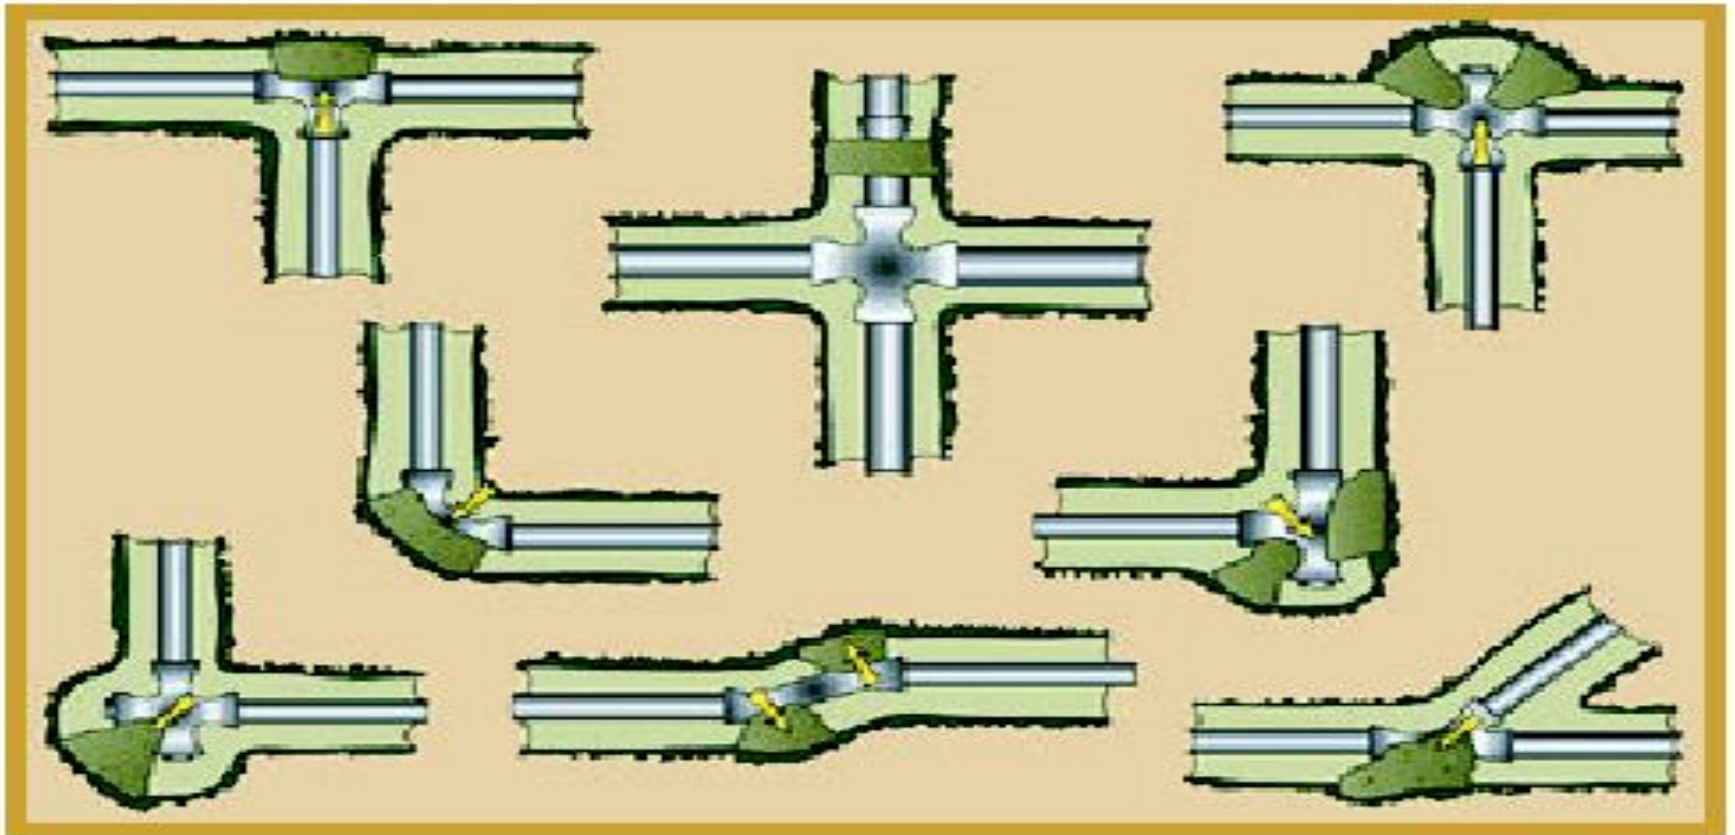

Figure 2: Thrust block examples (F-36)
- Therefore, it is important to be certain thrust blocks are placed to support the pipes and other components at all points where the flow of water changes direction (FIGURE 2).